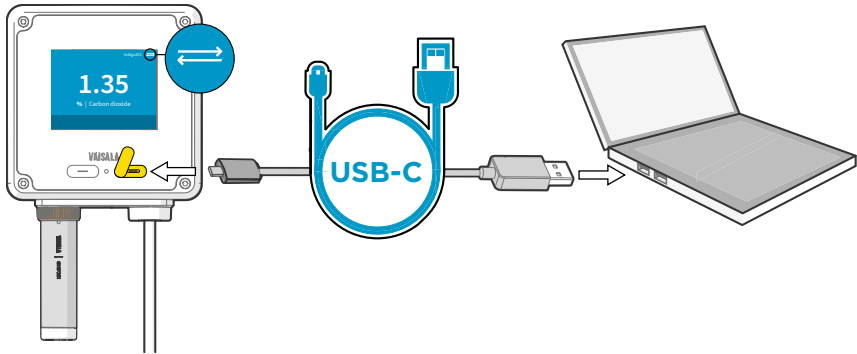

Figure 6 Connecting Indigo200 transmitter to Insight PC software with USB-C cable
5. In transmitter models with a display, the USB connection icon (see Figure 6 \(page 13\)) appears on the top right corner of the transmitter display when the USB cable connection is active.